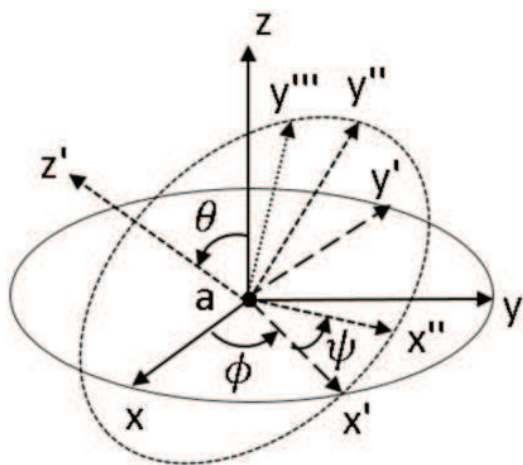

Figure 3: Euler angles.
2. Precession angle, ϕ , of rotation about the *z*-axis (in degrees) (see Figure 3).